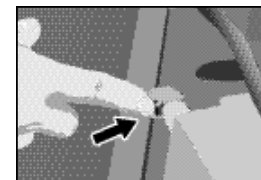

Fig.38
6. To release (disconnect) the external water tank, simply push down the (silver) "release" button located on top of the cabinet quick connect, grasp the recessed handles on each side of the tank, lift and pull the tank towards you. See *fig.38, 39*